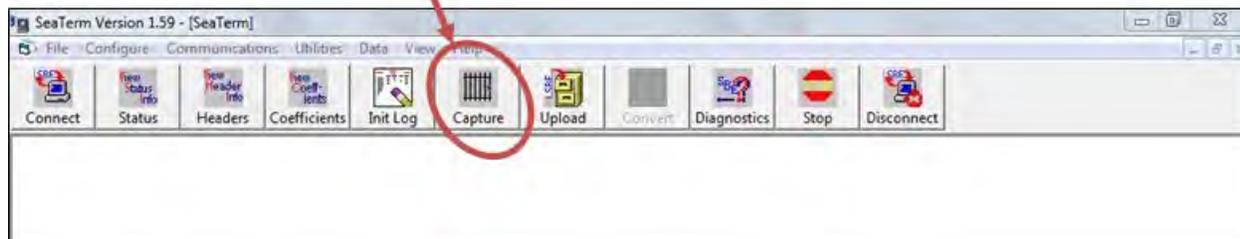

Figure 8. SeaTerm software with the Capture button highlighted.
2. Click on the **Capture** button or go to menu **Communications** and select **Capture to File...** (Figure 8).